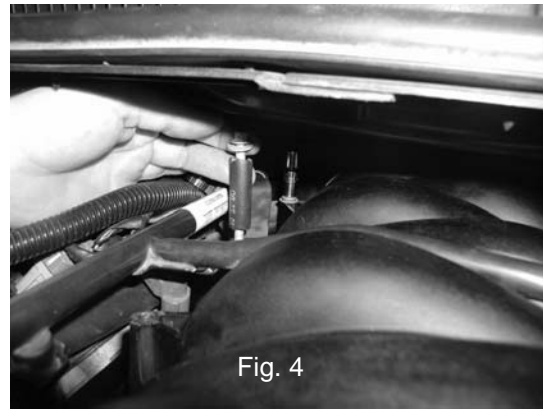

Fig. 4
- 7) Loosen all 10 intake manifold bolts (8mm hex). The five rear most bolts cannot be removed in vehicle (Camaro, Firebird). To remove manifold these must be partially lifted out of the way. A simple device (Bond sleeve) can be easily made to temporarily hold the bolts up (see Fig 4). These are made with a 1" piece of 1/4" rubber hose, slit lengthwise.